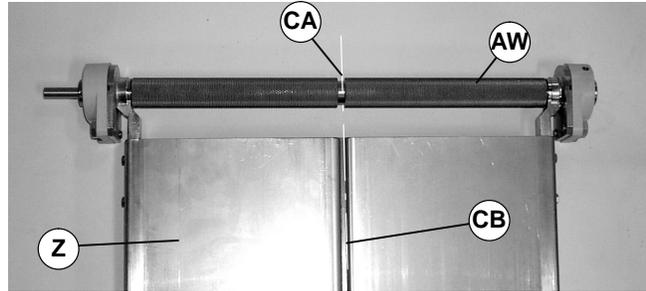

Figure 46
**IMPORTANT:** Before tightening set screws on bearing and head plate assemblies, make sure that center of groove (CA of Figure 46) on spindle (AW) is in line with center of groove (CB) on conveyor (Z).
5. Make sure center of groove (CA of Figure 46) on spindle (AW) is aligned with center of groove (CB) on conveyor (Z).